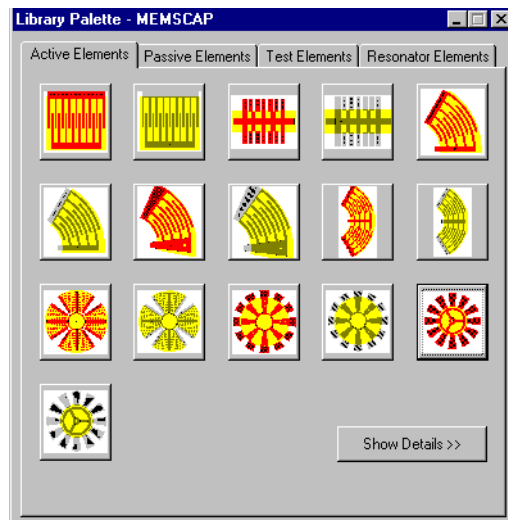

Figure 41: **Library Palette**
- ☑ Access the **Library Palette** (see Figure 41) by selecting **Library > Library Palette** in the **MEMS Pro Toolbar**.